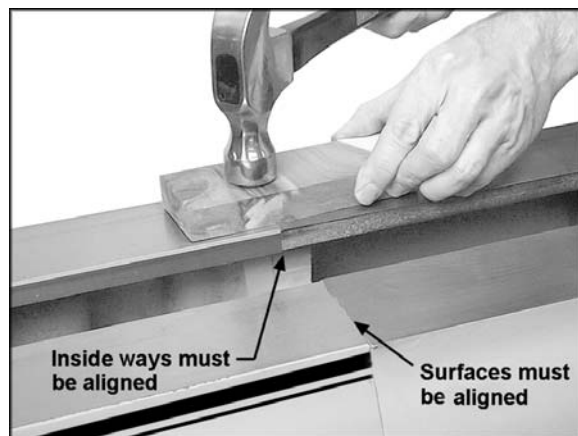

Figure 8
- Use a dead blow mallet, or a hammer with a block of wood, to tap down the bed extension until it is flush with the Lathe bed. See Figure 8. **Never use a steel-faced hammer directly against the bed surfaces.** Tap the bed extension where needed until its surface is aligned with the Lathe bed, and the inside ways are aligned.